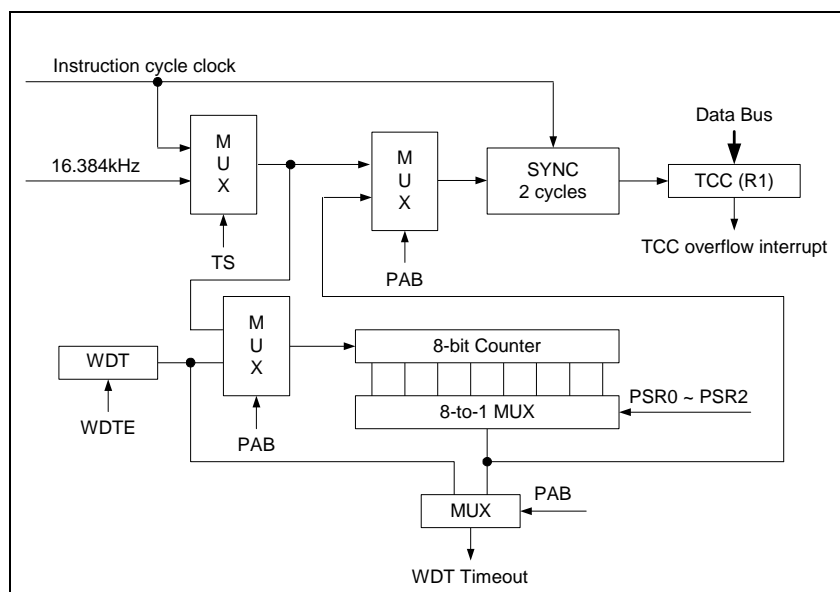

Fig 7-5 Block Diagram of TCC WDT
- Fig. 7-5 depicts the circuit diagram of TCC/WDT.